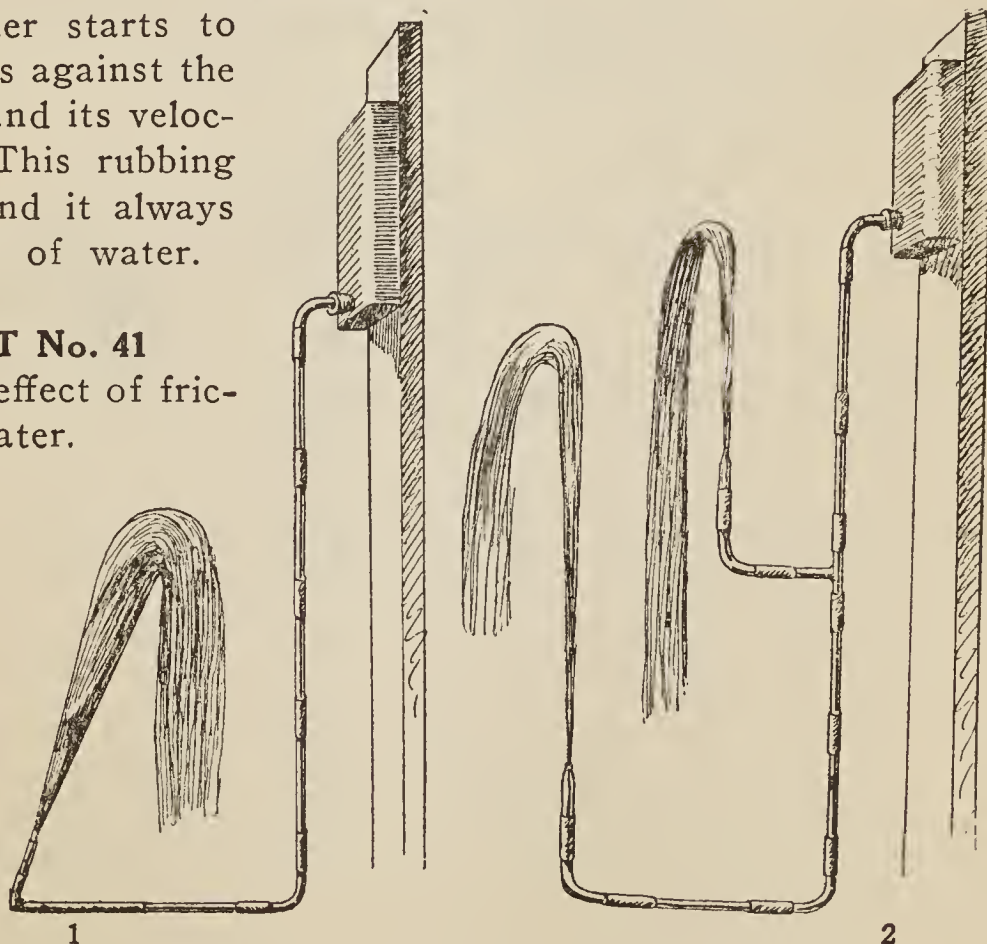

Fig. 114.—Friction Decreases the Height of Streams.
Use the apparatus, (1), Fig. 114. Raise and lower the tank. Do you find that the stream from the nozzle never reaches the level of the water surface in the tank?
Use the apparatus (2), Fig. 114. Is the lower stream longer than the upper, but do you find that it does not reach as high as the upper stream? It does not, because the velocity of the water in the lower tube and nozzle is greater and therefore the friction is greater.